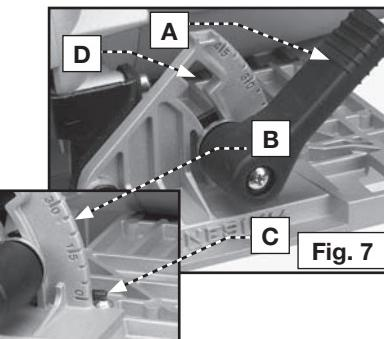

Fig. 7
1. Loosen the bevel-adjusting lever (A) Fig. 7.
2. Tilt the saw base until the desired graduation line on the bevel segment (B) Fig. 7 aligns with the indicator (C) Fig. 7 on the bracket.
4. For bevel cuts greater than 45°, set the guide on the 45° mark. Lift the bevel-adjusting lever into the slot (D) Fig. 7 and move the saw base to the greater angle. Tighten the bevel-adjusting lever firmly.